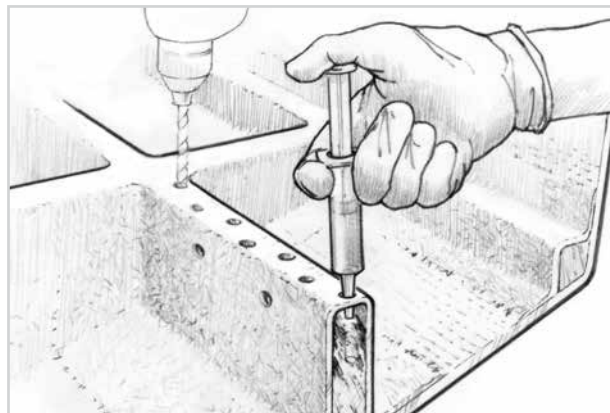

Figure 3-2 *Inject or pour resin/hardener mixture into the holes when the core is dry and while the core is warm.*
3. Inject or pour resin/hardener mixture into the holes while the core is warm (Figure 3-2). Epoxy, warmed by the core, will become thinner and penetrate more deeply into the exposed end grain. 206 Slow Hardener should penetrate more deeply than 205 Fast Hardener before it begins to gel.